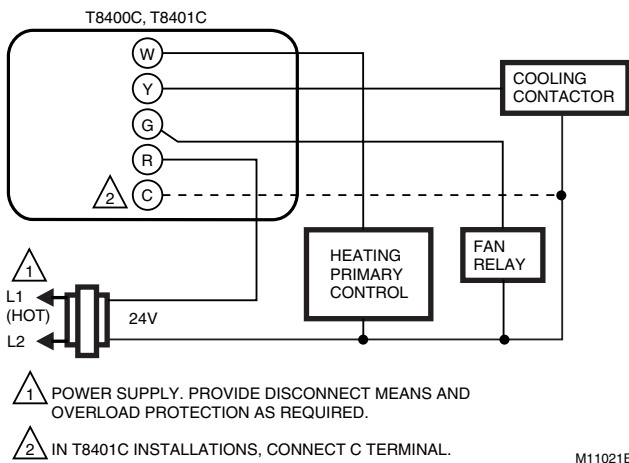

Fig. 10. T8400C/T8401C heat-cool wiring diagram in single transformer system with gas heat/electric cooling.
The T8401C and T8424C,D Thermostats are powered directly from the system transformer and are adaptable to most 5-wire, 18 to 30 Vac heating-cooling systems. Refer to Fig. 10 through 14 for typical wiring hookups.
2. Swing down the thermostat and press the lower edge of the thermostat onto the wallplate to latch. See Fig. 10.